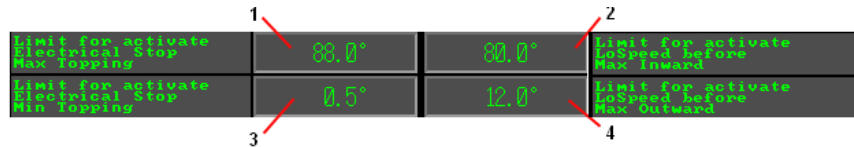

Figure 5-21 Main Jib Angle – Setting up limits for stop and low speed activation
- Push field **1** (refer to *Figure 5-21*) and input value for electrical stop max topping.
- Push field **2** (refer to *Figure 5-21*) and input value for activating Low Speed (MAIN JIB UP) before electrical stop max topping.
- Push field **3** (refer to *Figure 5-21*) and input value for electrical stop min topping.
- Push field **4** (refer to *Figure 5-21*) and input value for activating Low Speed (MAIN JIB DOWN) before electrical stop min. topping.